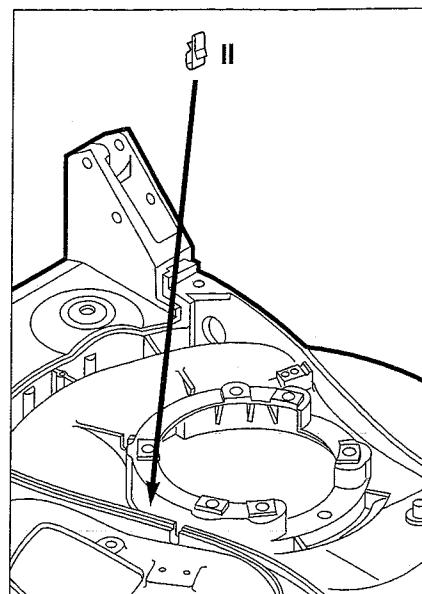

Fig. 6
2. Install the cable clip (II, Fig. 6), to the inside of the deck rib as shown by the arrow in Fig.6.
1. Install a new clutch cable retaining clamp along the raised rib of the deck adjacent to the door stub (II, Fig. 6).